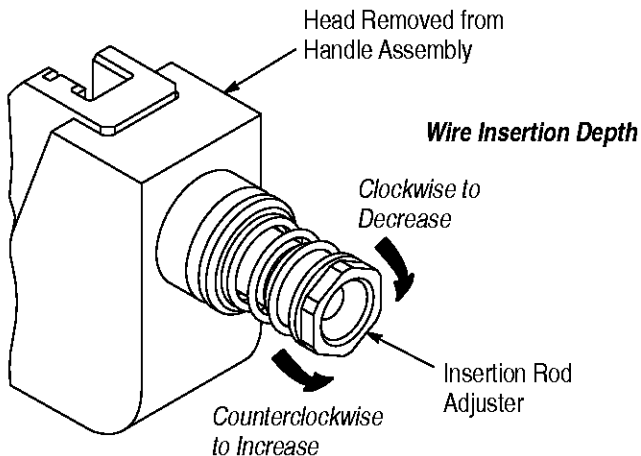

Figure 7
2. If the conductors are too deep in the contact slots, turn the insertion rod adjuster *clockwise*. A  $\frac{1}{6}$ -revolution will decrease the wire insertion depth by approximately 0.20 mm [.008 in.]. If the conductors are not deep enough in the contact slots, turn the adjuster *counterclockwise*. A  $\frac{1}{6}$ -revolution will increase the wire insertion depth by approximately 0.20 mm [.008 in.]. See Figure 7.